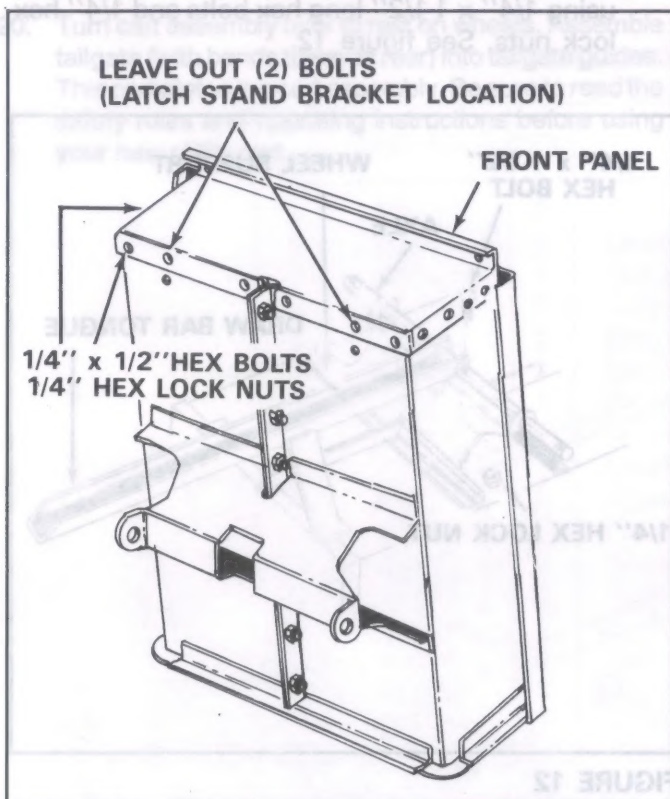

FIGURE 6
11. Assemble front panel to open end of cart body, using ten 1/4" x 1/2" hex bolts and 1/4" hex lock nuts. Bolt heads go to inside of cart. Leave out (2) bolts for latch stand bracket. See figure 6.